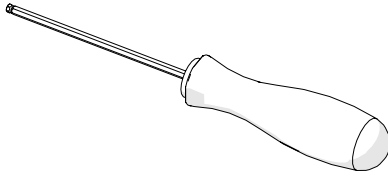
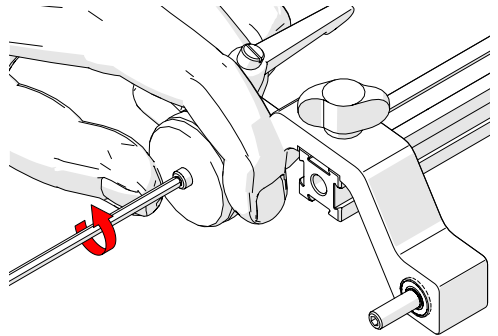

Fig. 1 - 3 mm hex driver
Fig. 20 - Wheel installation
The 3 mm hex driver (*Fig. 1*) is sufficient for all typical operations and adjustments of the **STIX**. The 3/8" wrench (*Fig. 2*) is used to remove and install buttons on the probe holders.
3. Grip the magnetic wheel by hand and using the supplied 3mm hex driver (Fig. 1), tighten the magnetic wheel to the axle (Fig. 20).